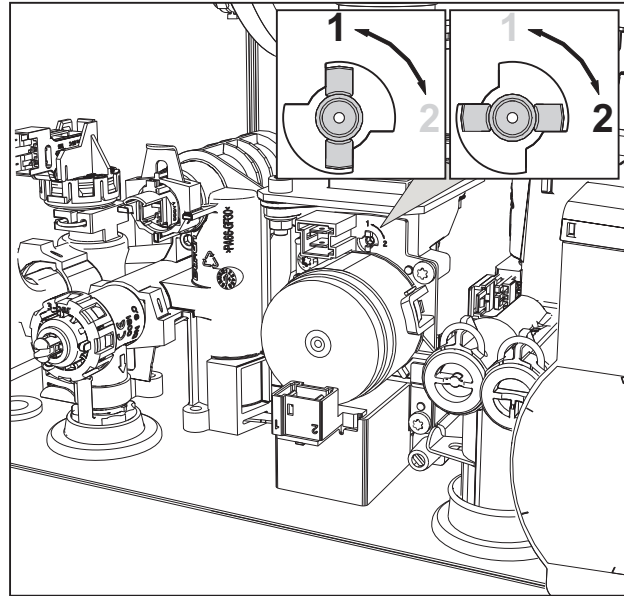

fig. 31
3. Turn the Throttle (fig. 31) according to the position indicated in table 8.